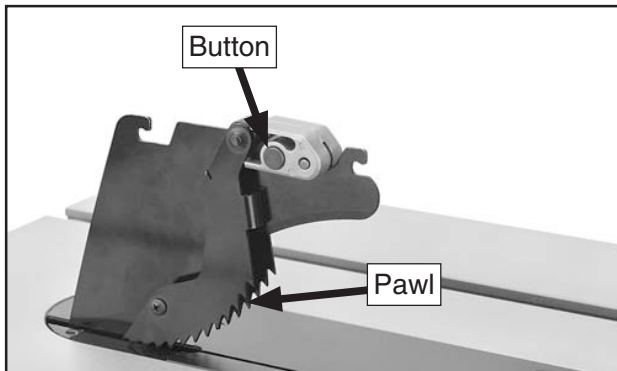

Figure 68. Button for removing pawls.
2. Press the button (Figure 68) on the block that holds the pawls, then remove the pawls from the spreader.
3. Press the button on the pawl block shown in Figure 68, then pivot the pawls down until they lock into place.